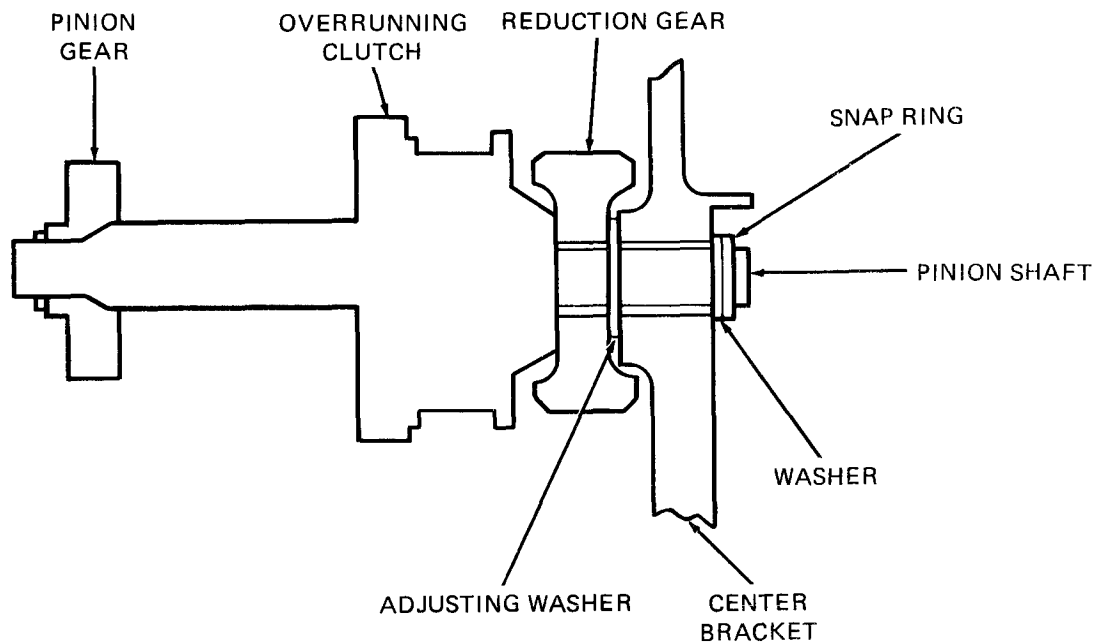
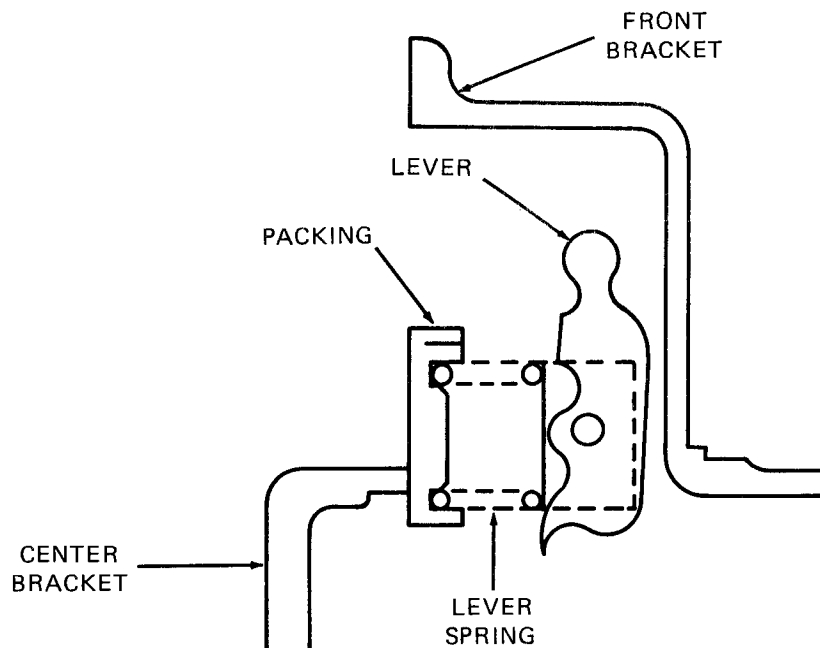

Figure 7-12. Adjusting Pinion Shaft End Play.
Figure 7-13. Lever Installation.
- (5) Install lever assembly (23), spring set (21), and packing (22), refer to Figure 7-13.
- (6) Adjust pinion shaft end play as follows:
- (a) Place reduction gear (20) on pinion shaft.
- (b) Install center bracket (17) and secure with screw (16).
- (c) Refer to Figure 7-12 and measure pinion shaft end play with a feeler gage between the center bracket and the washer.
(e) Adjust the gap by increasing or decreasing the number of fiber washers (Figure 7-12). Increasing number of washers decreases the clearance and decreasing the number of washers increases the clearance.